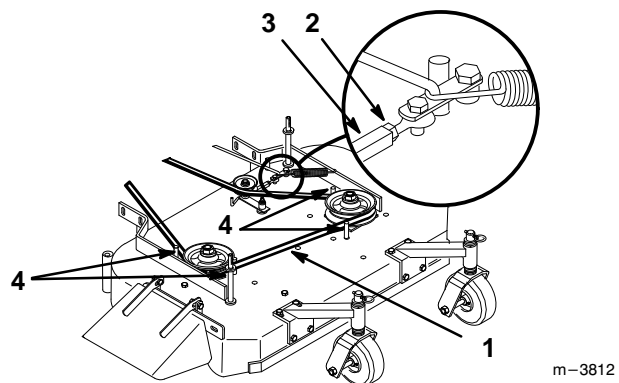

Figure 43
3. Remove mower belt (Fig. 43).
7. Install the mower belt (Fig. 43).
3. Loosen locknut and rotate turnbuckle on idler arm. Remove worn belt (Fig. 43).
4. Install new belt and adjust belt tension, loosen locknut on turnbuckle and rotate the turnbuckle toward the rear of mower to tighten or toward the front of mower to loosen belt tension (Fig. 43).